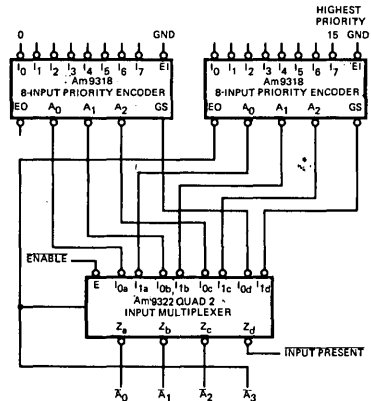

Figure 9
The number of priority levels can be increased by cascading 9318 encoders. This may be accomplished by connecting the most significant encoder's enable output (EO) to the next most significant encoder's enable input (EI) and using OR gates to combine outputs. A higher speed expansion method is to use multiplexers to combine output signals as shown in Figure 9.